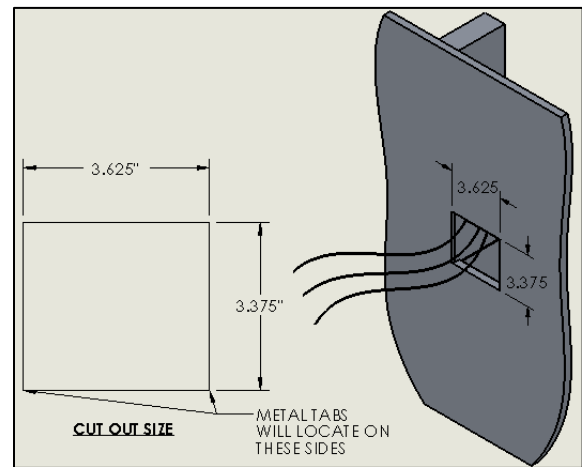

FIG. 12- J-BOX ASSEMBLY AND WALL CUT OUT
8. Attach the desired wall (ceiling) covering and finish accordingly as shown in FIG. 12.